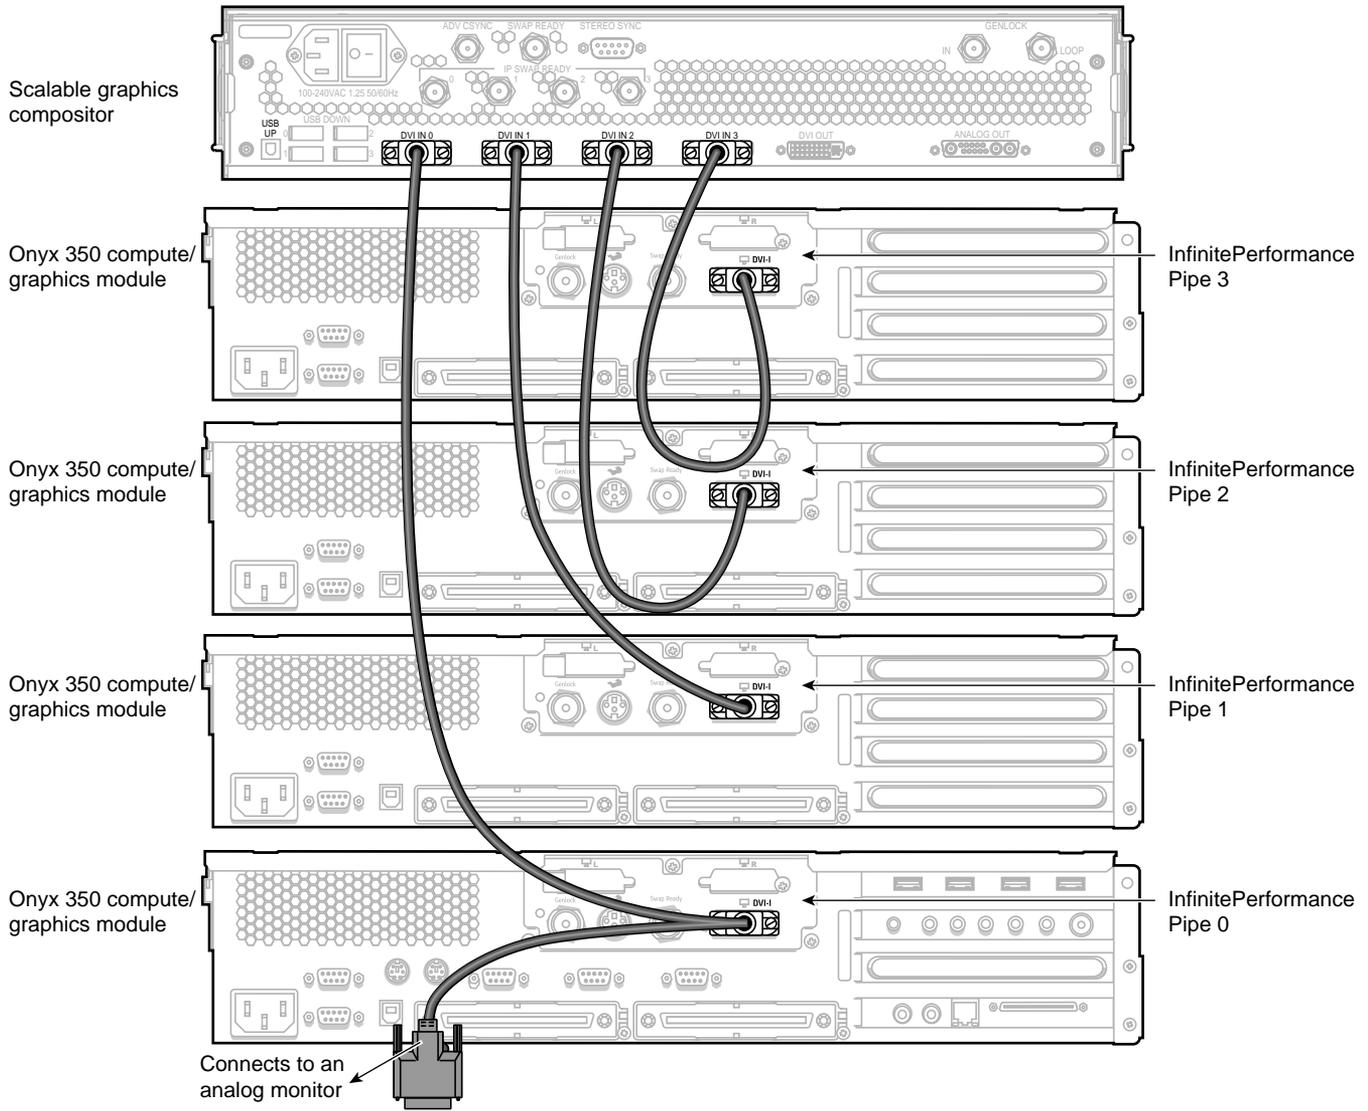

Figure 2-5 Connecting the DVI Connectors
4. Using the DVI-I splitter cable and DVI single-link cables, connect the DVI connectors of the InfinitePerformance pipes to the compositor DVI connectors in the following order (as shown in Figure 2-5):
- b. If you are connecting to an analog monitor, first make sure that your analog monitor is powered off and not connected to a power source. Then connect the ANALOG OUT connector on the compositor to an analog monitor. You can also connect the ANALOG OUT side of the DVI-I splitter cable, from the InfinitePerformance pipe, to an analog monitor (see Figure 2-5).